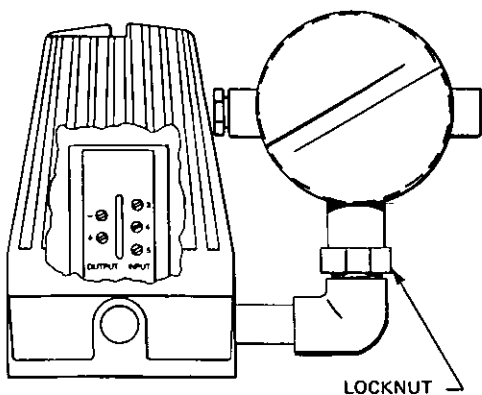

Figure 4
1. Loosen hex locknut. (See Figure 4)